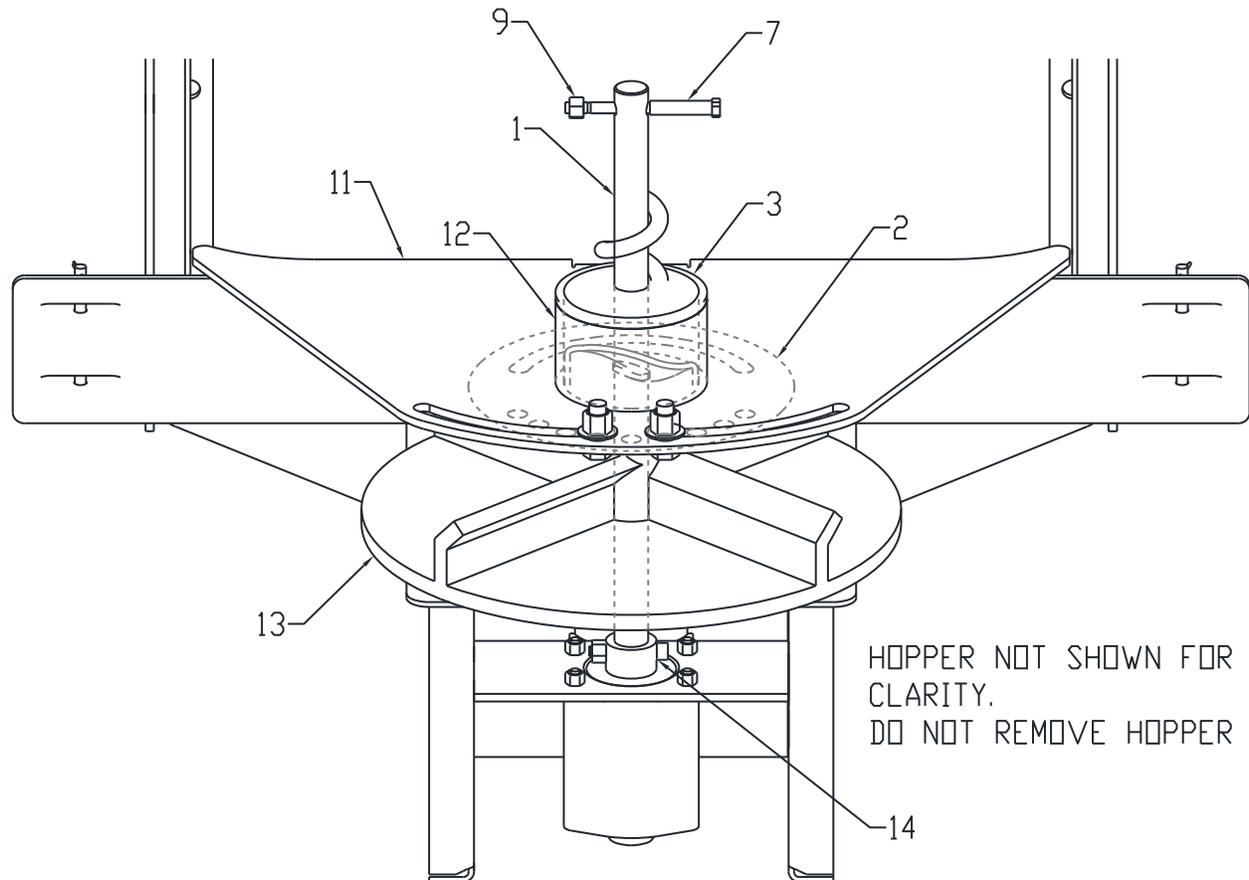

Figure 3: Complete Installation of Material Saver System
1. Mount Material Drop Gate (2) under the Feed Plate (11) using four 3/8"-16 X 1" Hex Head Cap Screws (4), eight 3/8" Flat Washers (8), and four 3/8"-16 Nylon Locking Nuts (9). See Figure 3.
2. Take the long end of Auger Shaft (1) and pass it through Material Drop Gate (2) and Spinner (13). Insert Auger Shaft (1) into Motor Shaft Cup (14).
3. Using one 1/4"-20 X 1-1/2" Socket Head Cap Screw (5) and one 1/4"-20 Nylon Locking Nut (10) install Auger Shaft (1) to Motor Shaft Cup (14). Do not over tighten.
4. Using one 1/4"-20 X 2" Hex Head Cap Screw (6) and one 1/4"-20 Nylon Locking Nut (10) attach Spinner (13) to Auger Shaft (1). Do not over tighten.
5. Install In-Disk Brush (3) inside Hopper and slide it down around Auger Shaft (1). Place it flat on top of Frame Collar (12).
- Note:** If In-Disk Brush (3) does not sit flat on its own then turn Spinner (13) manually counter-clockwise until Auger Flighting pulls the brush down flat. The brush should move freely.
6. Install Agitator Pin (7) and one 1/4"-20 Nylon Locking Nut (10) to the short end of Auger Shaft (1). See Figure 3.